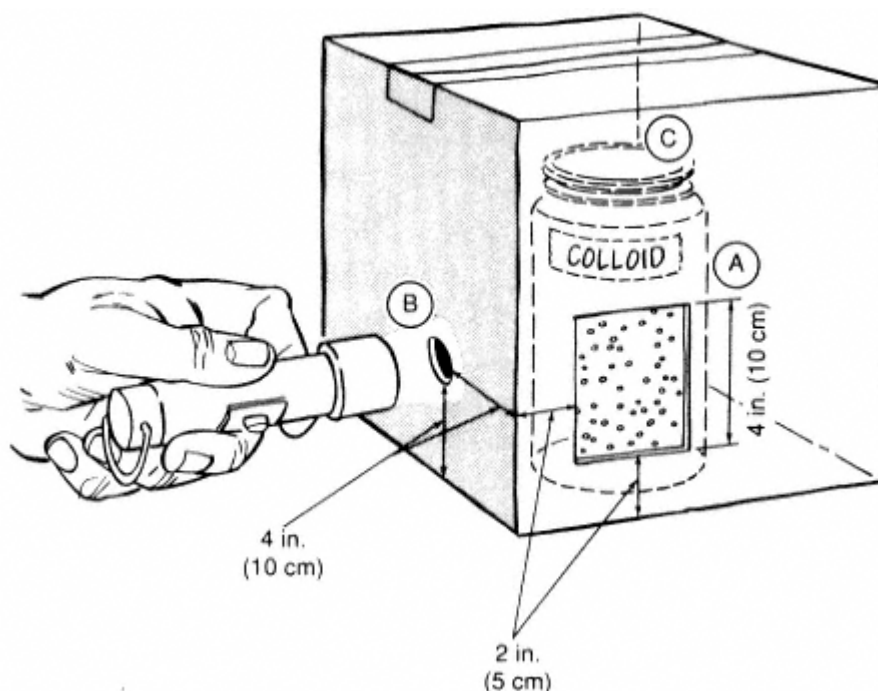

Figure 14.1
2. Cut a viewing hole 4 inches (10 cm) square in the front of the box. *Note:* The hole should be 2 inches (5 cm) from the left front corner and 2 inches (5 cm) from the bottom of the box (see A in Figure 14.1).
3. Use the point of the pencil to make a small hole in the left side of the box. *Note:* The hole should be 4 inches (10 cm) from the front corner and 4 inches (10 cm) from the bottom of the box (see B in Figure 14.1).
8. Place the jar labeled "Water" under the box. *Note:* The jar should be centered in front of both the viewing hole and the small hole in the side of the box (see C in Figure 14.1).